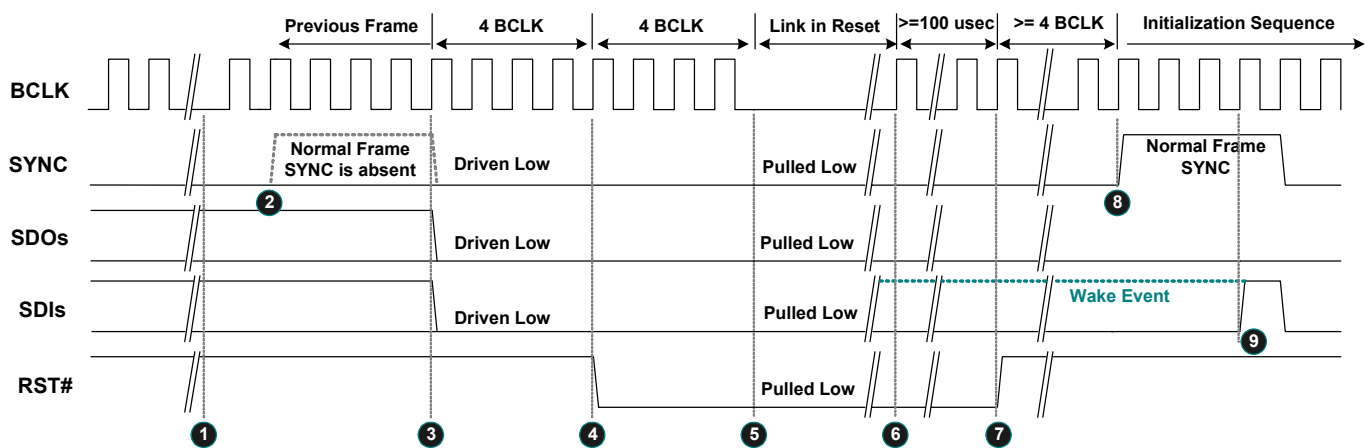

Figure 13. Link Reset Timing
3. Software initiates power management sequences. Figure 13, page 19, shows the 'Link Reset' timing including the 'Enter' sequence (❶~❺) and 'Exit' sequence (❻~❾)